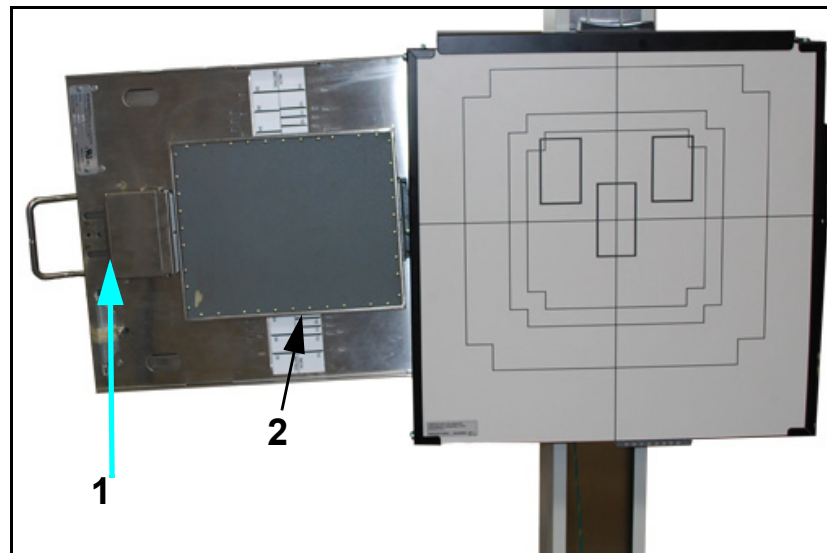

Figure 3-4. Clamp & Bracket
- 2 Lift clamp (1 in Figure 3-4) up.
- 3 If necessary, move the platform bracket (2) to the position that matches the size of your cassette.